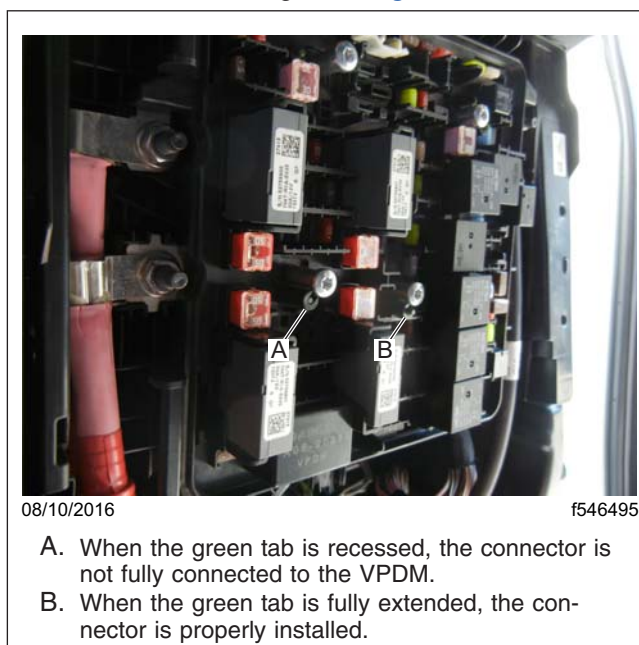

Fig. 19, Tightening the Captured Screws
17. Verify the J6 connector is fully seated into the VPDM by confirming the green indicator tab next to the captured screw extends outside the VPDM housing. See Fig. 19.